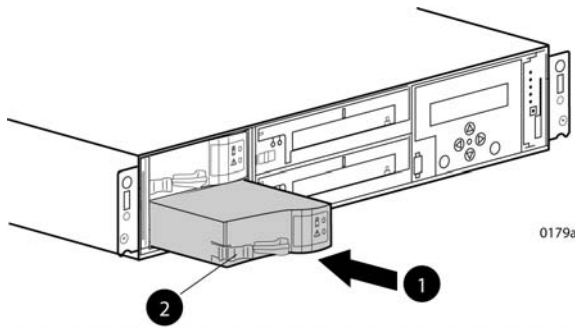

Figure 41 Installing a battery
- Position the battery as high in the slot as possible, then slide the battery into the enclosure (1, Figure 41) until it is fully seated and the mounting latch engages (2).